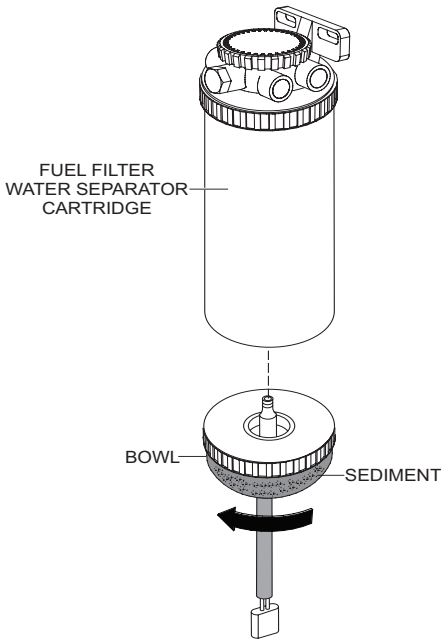

Figure 63. Sediment Bowl
1. Remove the sediment bowl from the fuel water separator cartridge as shown in Figure 63.